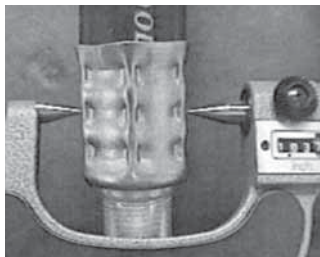

**Figure 3**
The Woodruff Key is bonded into the slot in the center die segment. It is used to align the dies in the die holders (Refer to Fig. 3).
- Select the proper size dies. Check all segments to make sure that all of the segments have the same numbers on the back. Each segment will be marked identifying the hose size and crimp diameter. Example: 5/16 ID hose with a .556 diameter crimp will be marked "556" (Refer to Fig. 3).